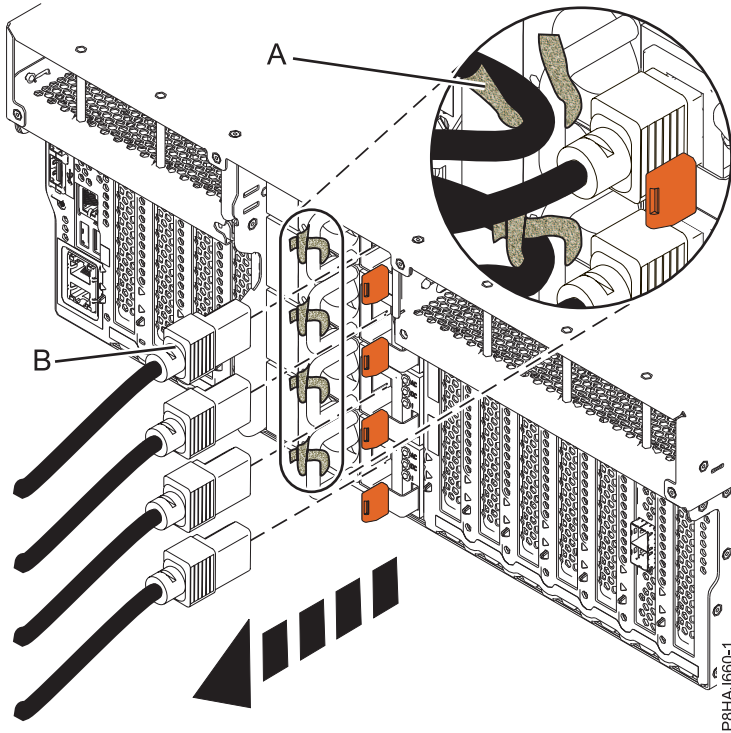
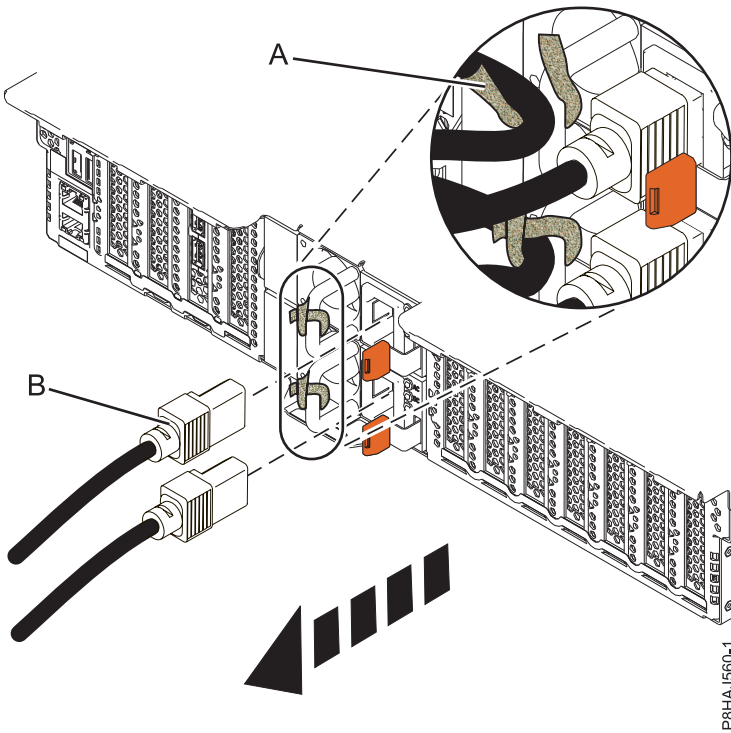
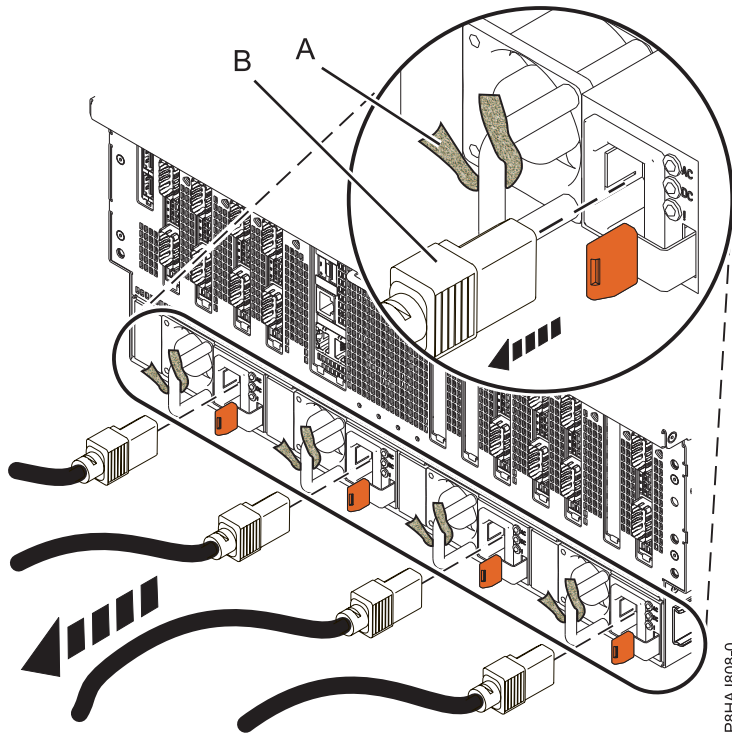

Figure 143. Removing the power cords from an 8247-42L, 8286-41A, or 8286-42A system
Figure 144. Removing the power cords from an 5148-21L, 5148-22L, 8247-21L, 8247-22L, 8284-21A, or 8284-22A system
Figure 145. Removing the power cords from an 8408-44E or 8408-E8E system
3. Disconnect the power cords (**B**) from the system unit. See Figure 143 on page 156, Figure 144 on page 156, or Figure 145 on page 157 or depending on the type of your system.